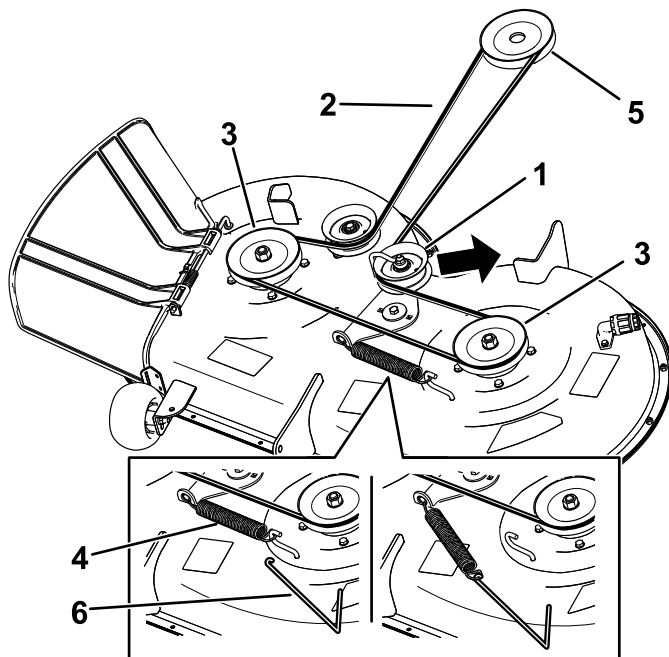

Figure 56
7. Using a spring-removal tool (Toro Part No. 92-5771), remove the idler spring from the deck hook to remove tension on the idler pulley, and roll the belt off the pulleys (Figure 56).
8. Route the new belt around the engine pulley and mower pulleys (Figure 56).
9. Using a spring-removal tool (Toro Part No. 92-5771), install the idler spring over the deck hook and place tension on the idler pulley and the mower belt (Figure 56).